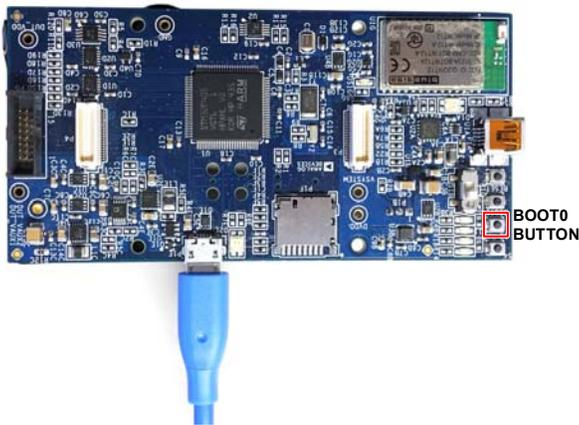

Figure 6. Micro USB Connection and **BOOT0** Button Used when Upgrading Firmware
2. Plug in a micro USB cable between the EVAL-ADPDCUZ and the PC with the power to the EVAL-ADPDCUZ turned off (see Figure 6).